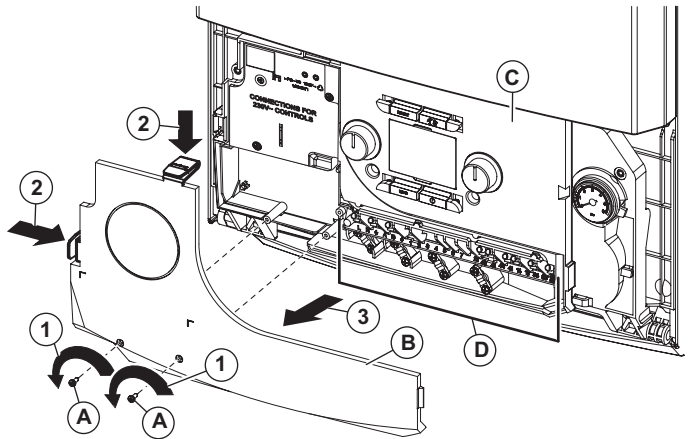

Fig. 4.14
4.10 CONNECT THE MAINS SUPPLY - Figs. 4.14 and 4.15
1. Remove the two screws 'A' in Fig. 4.14.